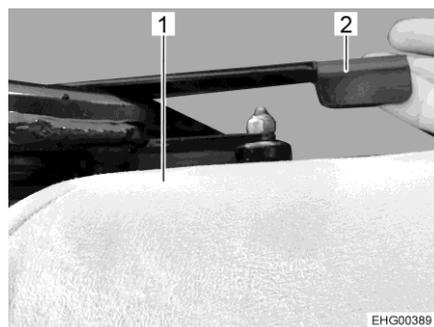

Fig. 23 Backrest, lower part
- Press the lever (Fig. 23,2) at the underside of the seat upwards.
- Place the lower part of the backrest (Fig. 23,1) upright.